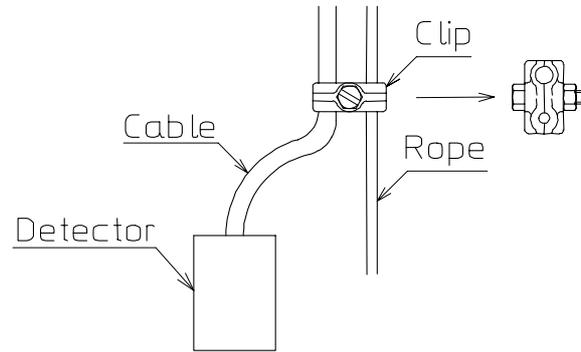
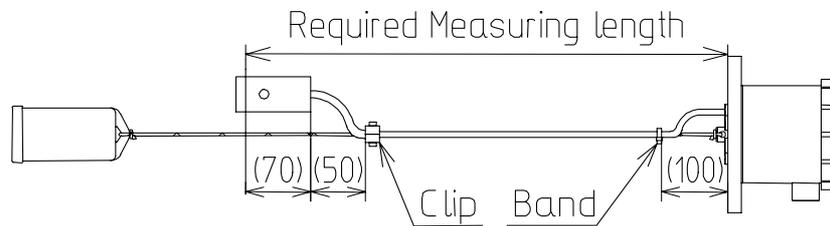

Fig. 8
Fig. 9
(Refer Fig. 8 and Fig. 9)
- (6) Bundle the cable and rope with band. (Refer to Fig. 9)